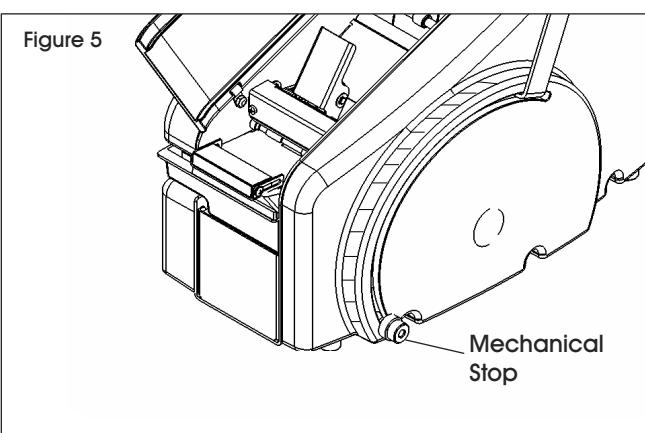

Figure 5
3. A mechanical stop on the side of the dispenser is available if a known length will be used repeatedly. (See Figure 5)